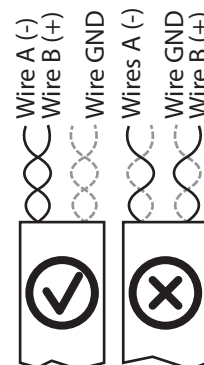

Figure 32: Assignment of twisted-pair wires
- When connecting wire A (-) and wire B (+), observe the wire pairing (Figure 32)